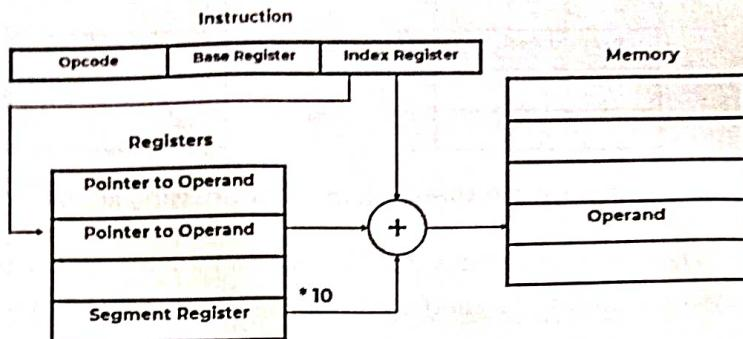

Figure 2.8: Based Indexed Addressing Mode.
- The sum is added with the segment register * 10 H to generate Effective Address as shown in figure 2.8.